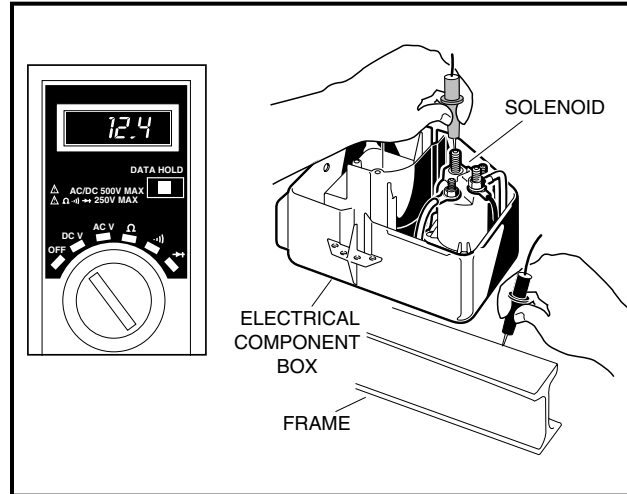

FIGURE 12-23
10. With the forward and reverse lever still in NEUTRAL, and the neutral lock-out cam in the SERVICE position, set the multimeter to DC volts (DC V) and place the red (+) probe on the large post that does *not* have wires connected to it. Place the black (-) probe on the frame of the vehicle. Turn key switch to ON position, depress accelerator pedal, and listen for solenoid “click”. The meter should read full battery voltage. If the reading is incorrect, replace the solenoid (**Figure 12-23, Page 98**).